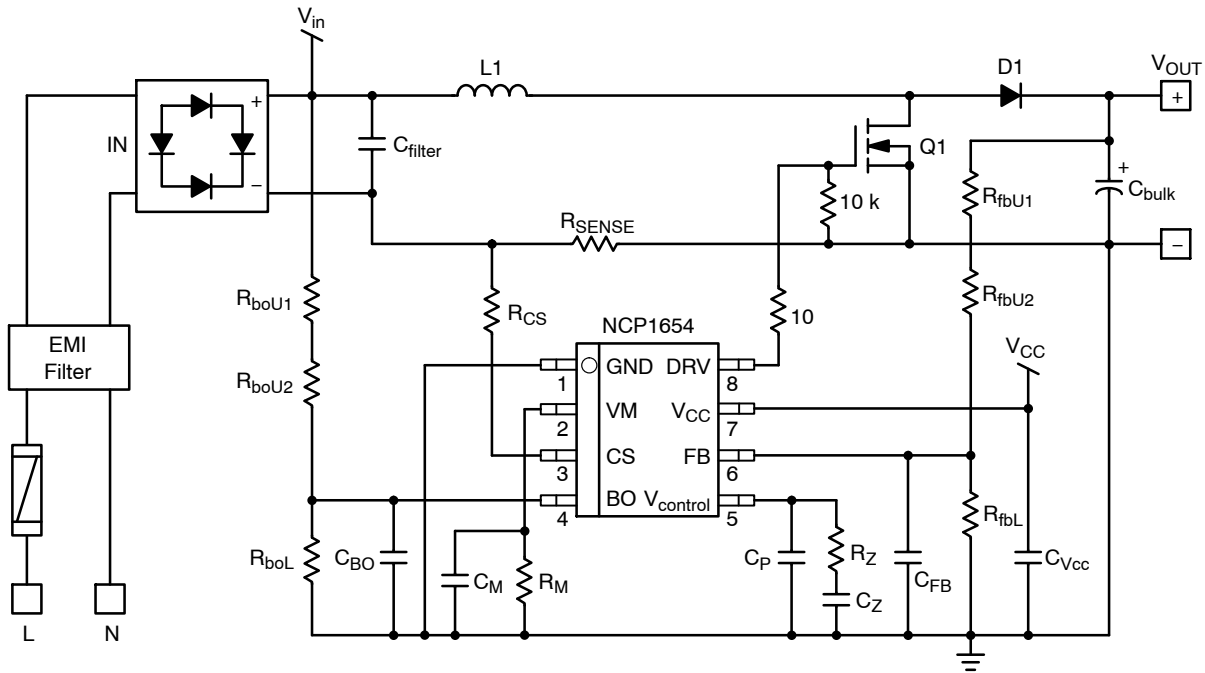

Figure 1. PFC STAGE DIMENSIONING – Generic Schematic
As shown by Figure 1, the feedback arrangement consists of:
- $R_{\text{fbU1}}$ ,  $R_{\text{fbU2}}$ , and  $R_{\text{fbL}}$  set output voltage. In practice, one generally implements more resistors as upper side feedback loop for safety consideration. Refer to Figure 1, given that  $V_{\text{out}}$  is a high voltage, an accidental shortage of the feedback resistor would destroy the controller. That is why it is better to have several series resistors instead of only one.
- $R_{boU}$  ( $= R_{boU1} + R_{boU2}$  in Figure 1) and  $R_{boL}$  are dimensioned to adjust the threshold of brown out protection. Because of the safety consideration, it is recommended to split this upper side brown out resistor into 2 or more resistors.